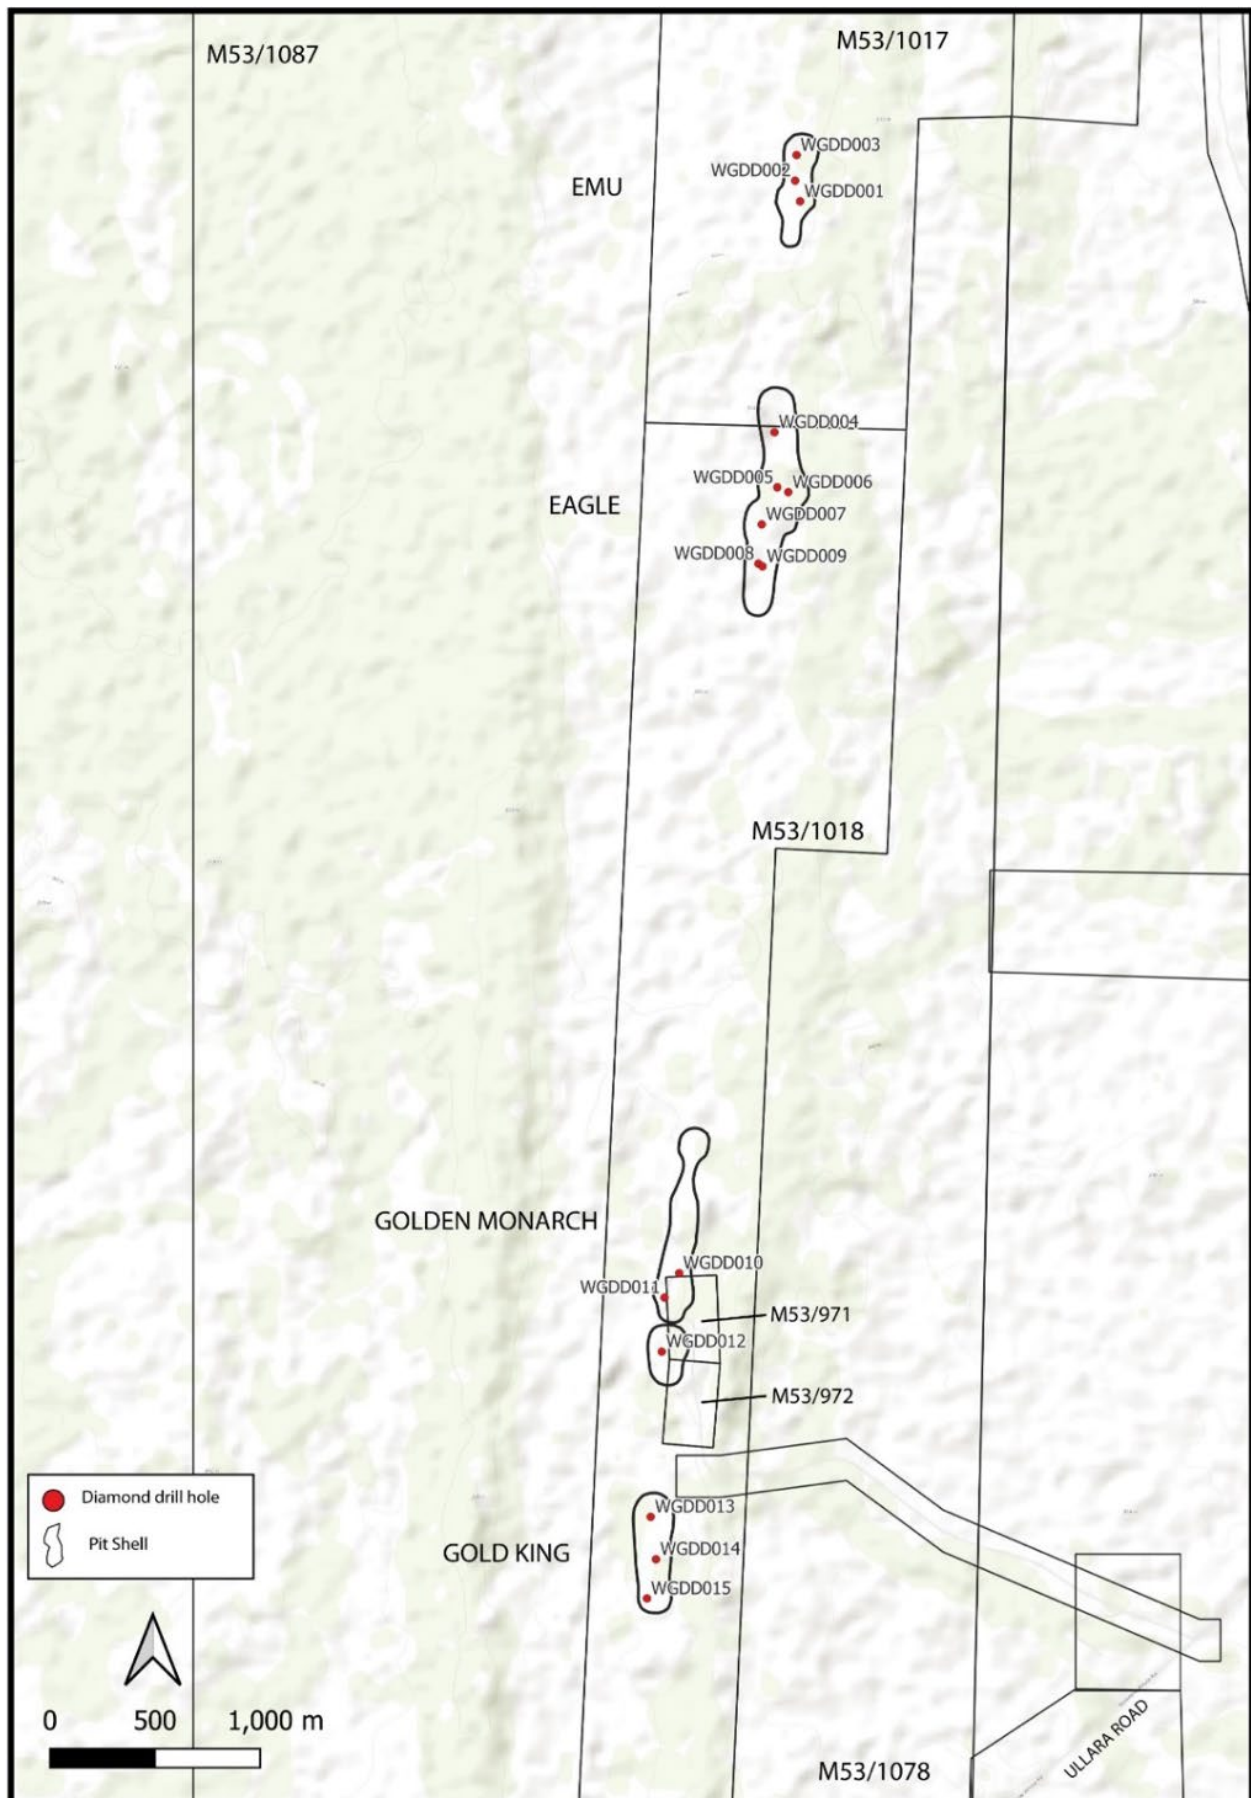

Figure 1. Gold Duke optimised pit outlines and diamond drill hole locations.
WGR recently released a Scoping Study (Study) for the Gold Duke Project. The Study indicated that the project could deliver a Pre-tax NPV of approximately A\$38m with an IRR of 617% at AU\$3,500 gold price. The metallurgical program aims to provide details across all optimized pit areas (Figure 1) contained in the scoping study.2
Five (5) composite samples from 12 drill holes were selected from across the Gold Duke Project, including all four prospects of Gold King, Golden Monarch, Eagle North and South, and Emu (Figure 1, Table 1 & 4). Drillhole details and individual assay data for each metre interval for all composites are presented in Table 4. All samples are from representative mineralised BIF zones within the preliminary optimised pit shells.
WGR continues make progress with discussions in relation to both toll milling and mining of the assets (See ASX announcement 15th February 2024). As part of these discussions, WGR has provided pit samples from the Golden Monarch pit (Figure 1) to a processing plant for metallurgical test work including bottle roll testing, and tailings characterisation.